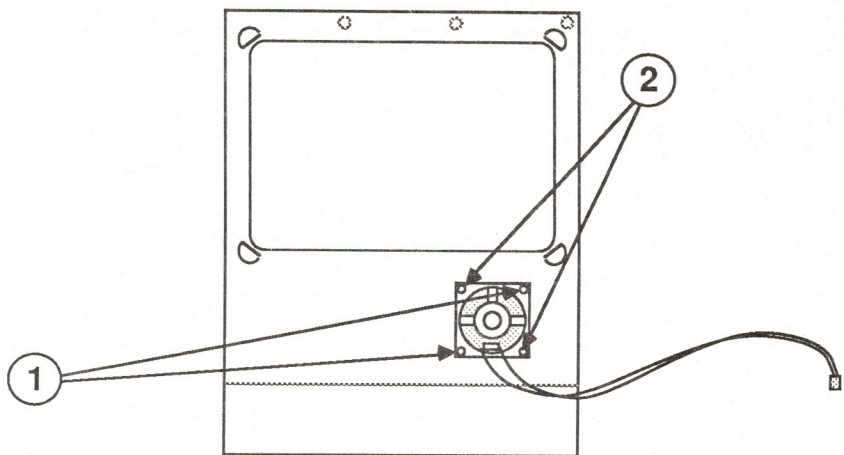

FIGURE 31
6. If you are replacing the speaker, use an exacto knife to cut away the melted plastic that secures two of the corners of the speaker to the front bezel (Figure 31, #1) and lift the speaker out.
2. Position the speaker in the bezel (see Figure 31).
3. Touch a heated soldering iron to the two previously unmelted plastic posts that now protrude through the corners of the speaker (Figure 31, #2). The plastic will spread as it melts, then harden, holding the speaker in place.